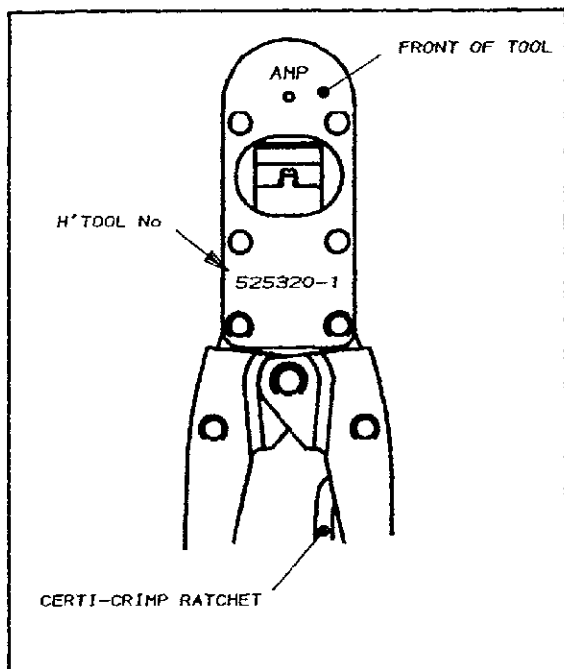

Fig.1-1
1. Refer to the appropriate APPLICATION SPEC See Fig 1-1, for the required terminal/wire combination.